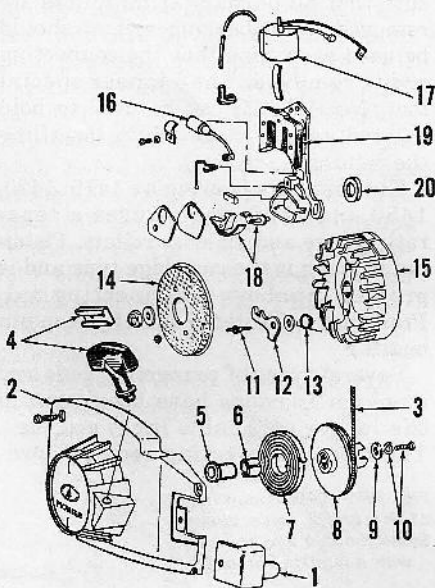

Fig. PR5-17—Exploded view of the rewind starter. Some models may not be equipped with steel bushing (5).
REWIND STARTER. Starter pawls (12—Fig. PR5-17) are located on the flywheel and engage a notch in pulley (8) for starting. All models are equipped with two sets of pawls (12), pivots (11) and springs (13). Pawls and springs should be installed as shown in Fig. PR5-18. Starter must be disassembled to renew rope (3—Fig. PR5-17), or rewind spring (7). The 5/32-inch diameter nylon cord should be 45 inches long. The rewind spring should be preloaded 3 turns when assembling.